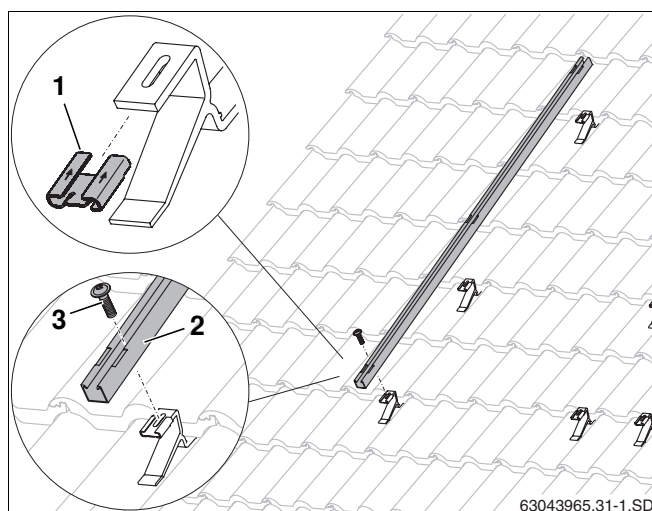

Fig. 29 Fastening the wind or snow load profile
- Push sliding nut (Fig. 29, **Item 1**) onto the roof hook in the direction of the arrow.
- Place the wind or snow load profile (Fig. 29, **Item 2**) onto the roof hooks and tighten using an M8 bolt (Fig. 29, **Item 3**).